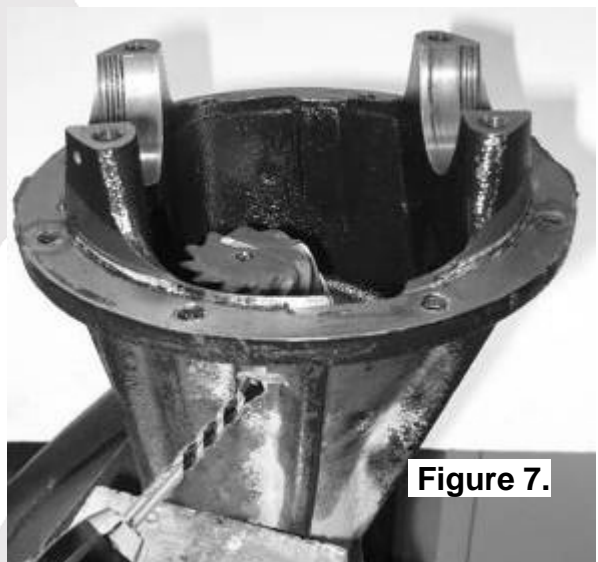

Figure 7.
- ☐ Drill an 11.2mm [7/16"] diameter hole through the differential housing square to the outside surface. (Fig.7.)